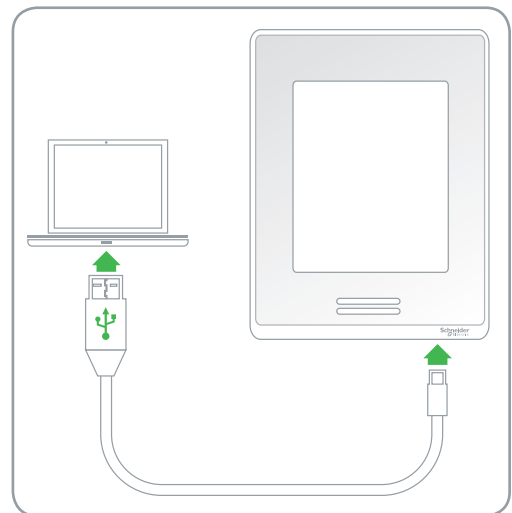

Figure 1 Connect Room Controller to system
1. Connect Computer to SE8000 Series Room Controller using USB 'A' to Micro-USB 'B' cable (Figure 1).